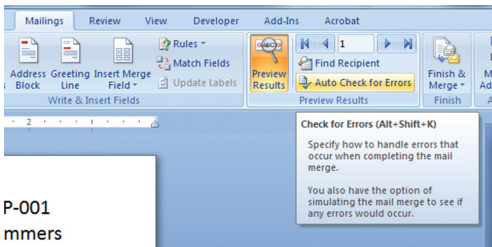

FIGURE 20 Check for errors before printing your labels using the Auto Check for Errors tool.
R. If you want to save a separate completed merged document containing every page in a single file, select the **Auto Check for Errors** button under the “Mailings” tab (Fig. 20).